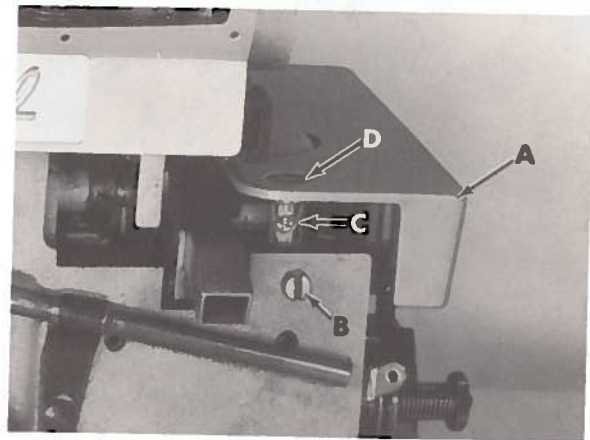

Fig. 8
To remove cloth plate (A, Fig. 8) loosen screw (B) and lift upward with stud (C) and screw (D) assembled.